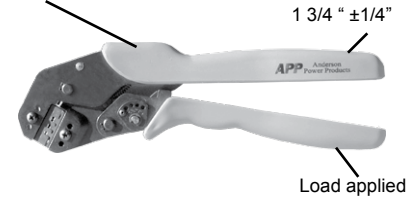

Figure 4
1. Measure current tool preload force by placing the end of one of the handles on a scale and pushing the other grip until the ratchet releases. The amount of force should be measured 1 3/4 inches from handle end as shown (See Figure 4).